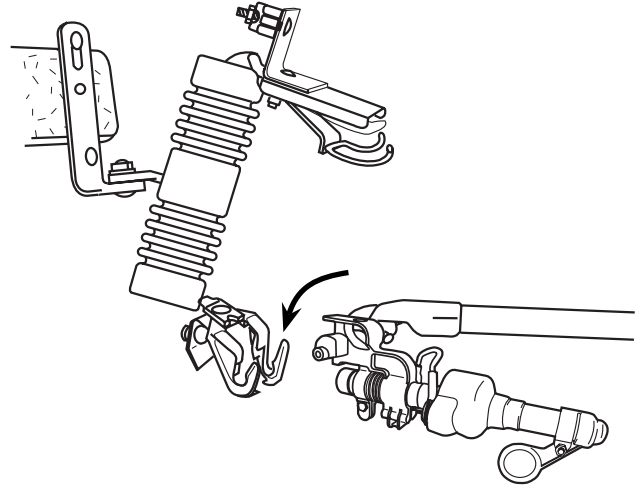

Figure 3. Inserting ASL into the Type L cutout.
3. Place ASL into the hinge of the cutout (See Figure 3).